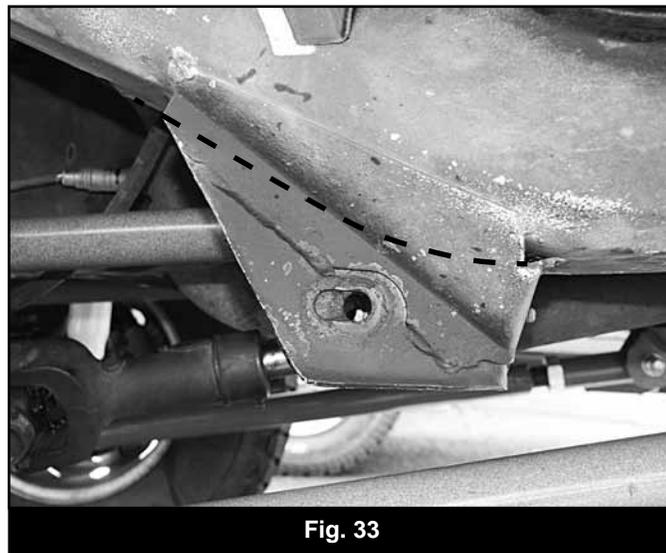

Fig. 33
1. Mark a cut line on the two lower control arm pockets that follow the contour of the frame (Fig 33). Using a reciprocating saw or cut-off wheel remove the pocket from the frame. Take care not to cut into the frame.